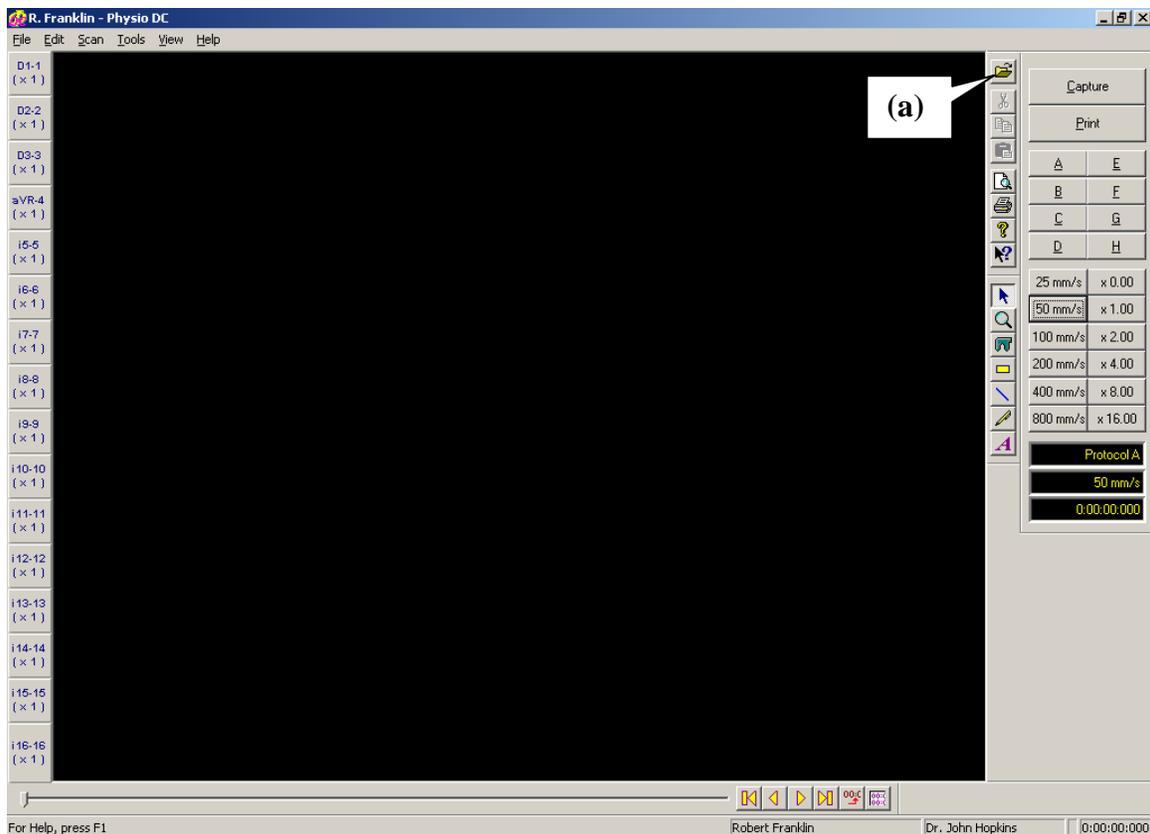

Figure 26
- Click on item (a) of **Figure 26** to access a box entitled “PATIENTS” that has the list of all stored studies.